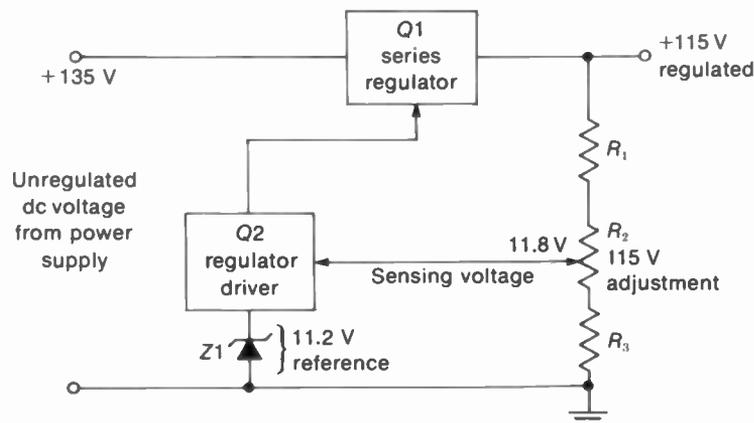

FIGURE 12-29 SERIES REGULATOR FOR LOW-VOLTAGE POWER SUPPLY.
**Feedback circuit with series regulator transistor.** See Fig. 12-29. Q1 is the series regulator that provides output to the load. Q2 is the driver to control the bias on Q1. The driver has two input voltages. One is a reference of 11.2 V stabilized by the zener diode in its emitter circuit. The other is the sensing voltage of approximately 11.8 V, from a tap on the  $R_1R_2R_3$  voltage divider across the output.
The bridge rectifier produces 135 V, at the 500- $\mu$ F input filter capacitor  $C_4$ . The two-section filter consisting of  $R_7$  and  $R_8$  with  $C_4$ ,  $C_5$ , and  $C_6$  removes the 120-Hz ripple. In addition, the output of 135 V goes to the regulator circuit consisting of Q1 and Q2. This is the same series regulator illustrated in Fig. 12-29. The dc output from the emitter of Q1 is a well regulated +115 V.  $R_{17}$  is adjusted to produce this output voltage. Additional filtering in the output is provided by the 10- $\mu$ F  $C_9$  and 0.1- $\mu$ F  $C_{10}$  in parallel. The purpose of the small paper capacitor is to provide low reactance for rf signal frequencies, across the self-inductance of a large electrolytic capacitor.